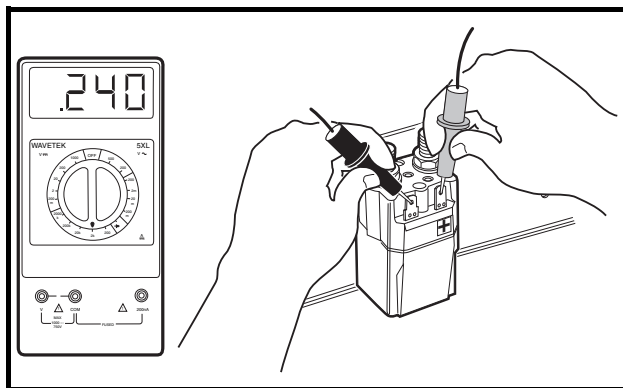

Figure 11-12 Activating Coil Test – Factory-installed Solenoid
- **Factory-installed solenoids:** A reading of 200 to 250 ohms should be obtained (**Figure 11-12, Page 11-19**). If not, replace the solenoid.